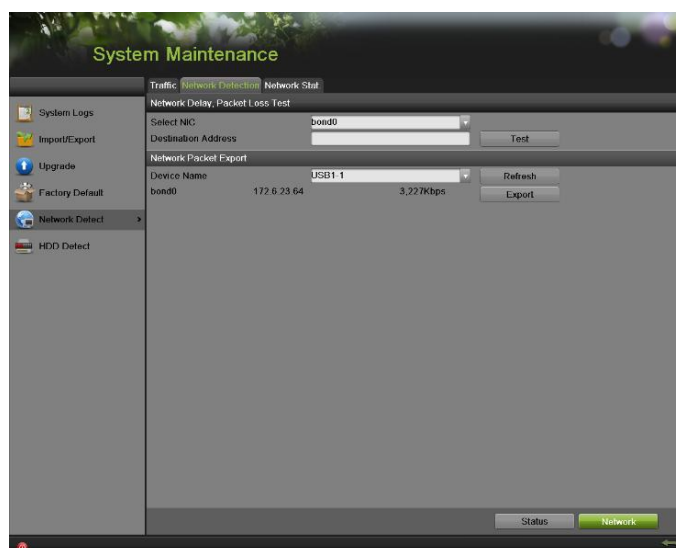

Figure 148 Network Detection
2. Select the Network Detection tab to enter the Network Detection menu, as shown in Figure 148.